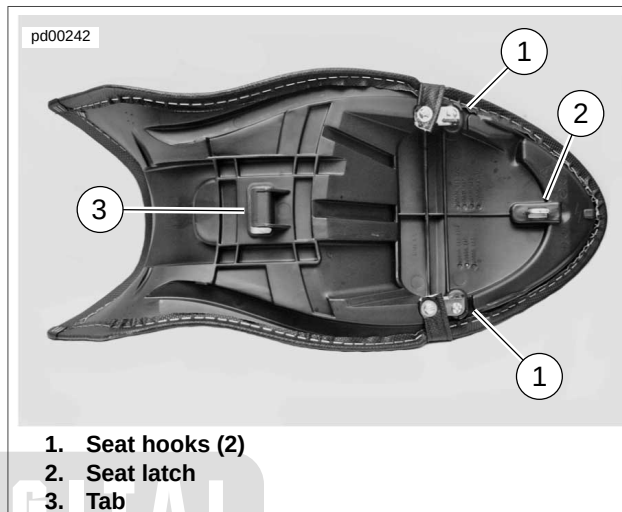

Figure 2-196. Seat Mounting Points:
- a. **For XB9SX, XB12S and XB12Scg:** Insert the front tab into the slot in the trunk pan. See Figure 2-196.